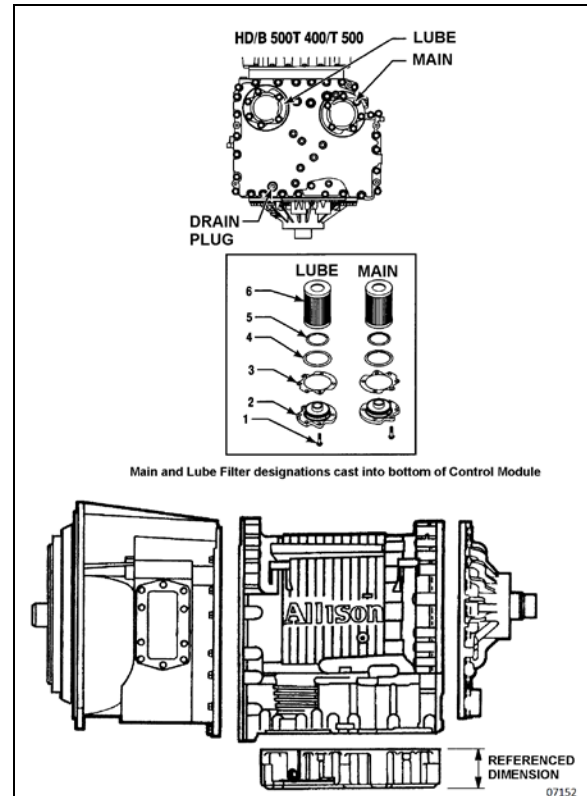

FIGURE 7: DRAIN PLUG AND FILTERS
2. Remove the drain plug from under the transmission (Figure 7) and allow the oil to drain into a suitable container. Check the condition of the oil as described previously.
3. Remove twelve bolts (item 1), two filter covers (item 2), two gaskets (item 3), two O-rings (item 4), two O-rings (item 5) and the two filters (item 6) from the bottom of the control module (Figure 7).
4. When reinstalling parts, lubricate and install new O-rings (4) and (5) on each cover (2). Lubricate O-ring inside filter (6) and push filter onto cover (2). Install new gaskets (3) on cover (2) and align holes in gaskets with holes in cover.